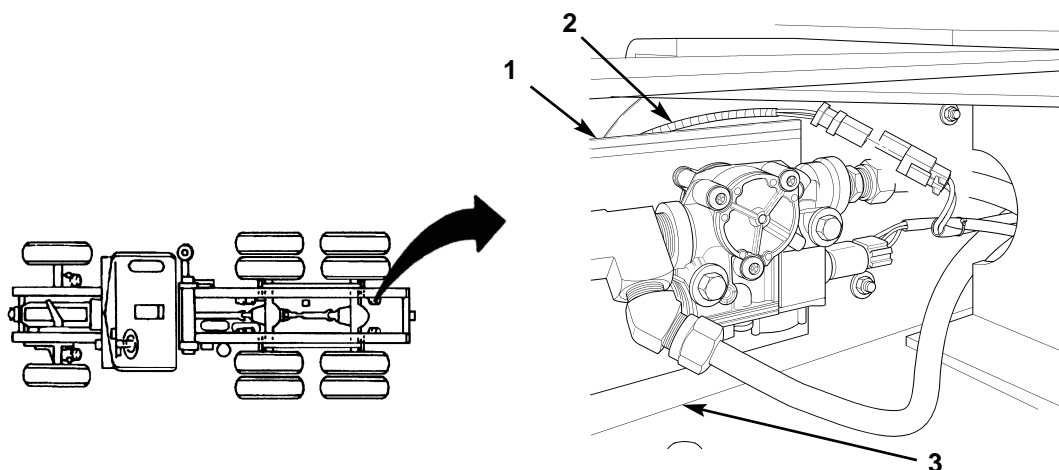

Figure 86. Routing Wheel Sensor Cable.
37. Route wheel sensor cable (figure 86, item 2) up to frame rail (figure 86, item 3) and behind left-rear modulator mounting bracket (figure 86, item 1).